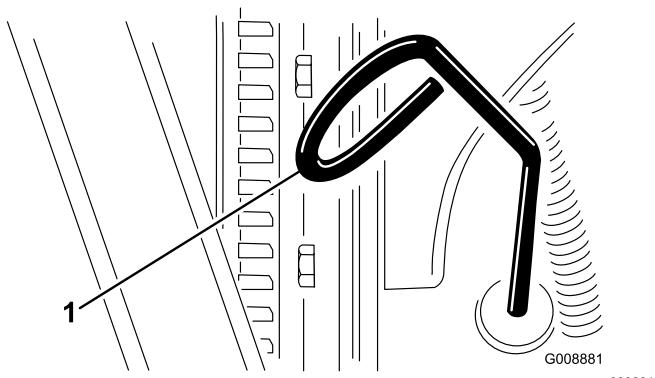

Figure 20
2. Remove the dipstick (Figure 20) and wipe it with a clean rag.